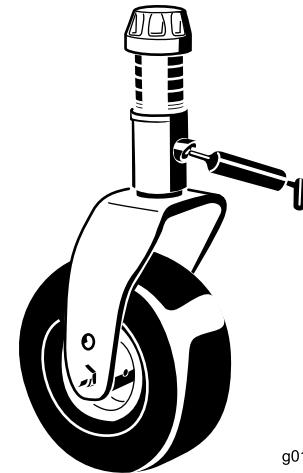

Figure 41
- 2 castor-fork-shaft bushings (Figure 41)